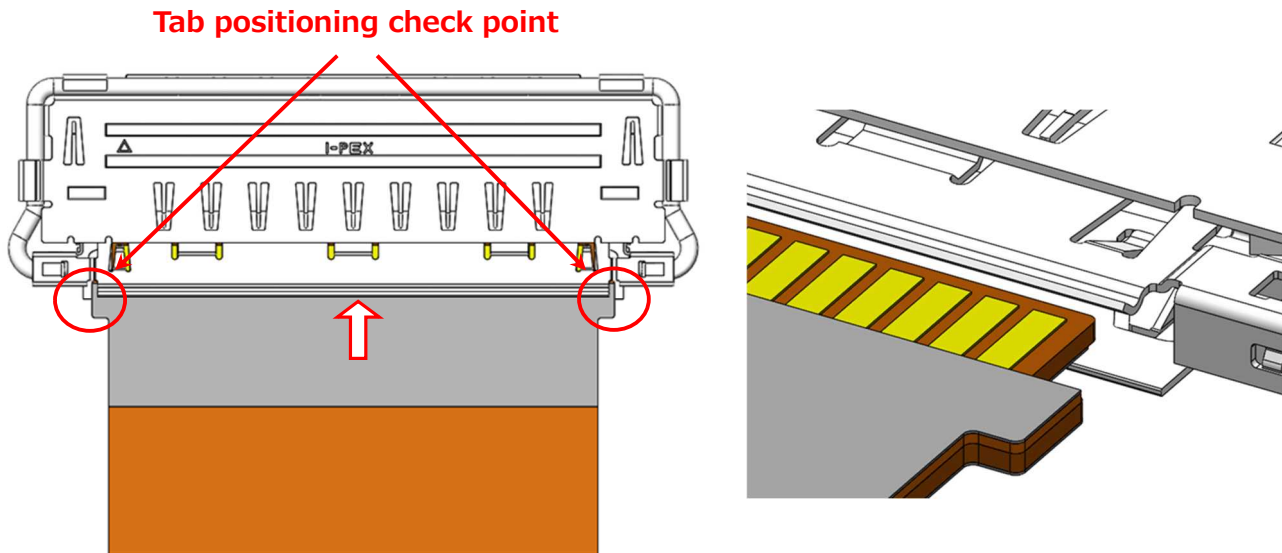

Fig.5 Checking FPC tab positions
- ② Make sure to check the tabs on both ends of the FPC are positioned correctly before completing FPC insertion. The FPC shall be inserted horizontally along the undersurface of the shell. (Fig.5)